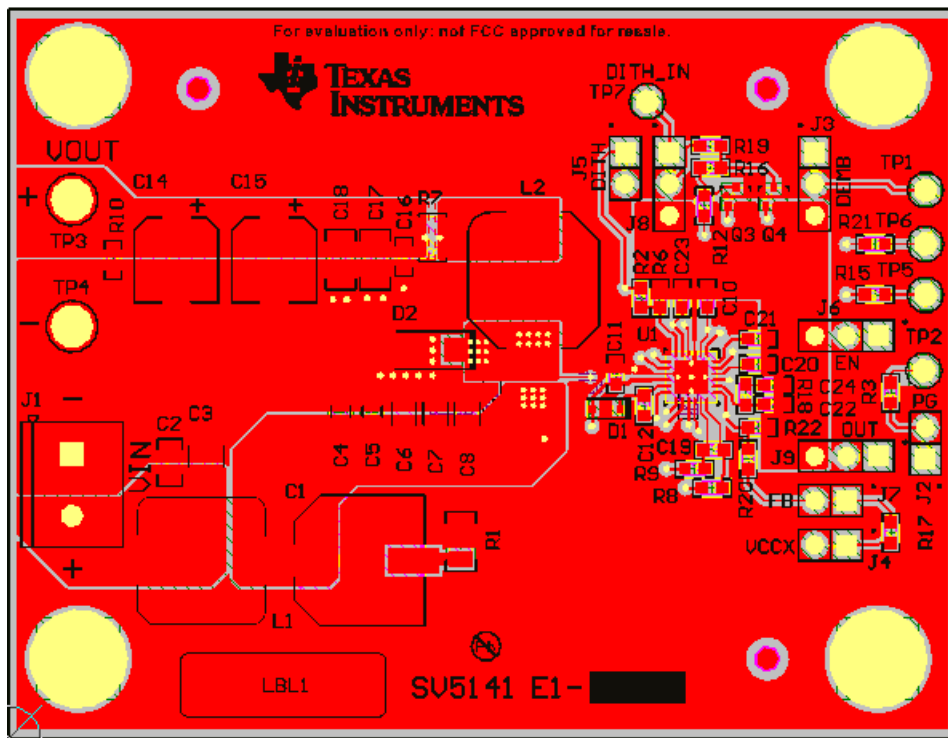
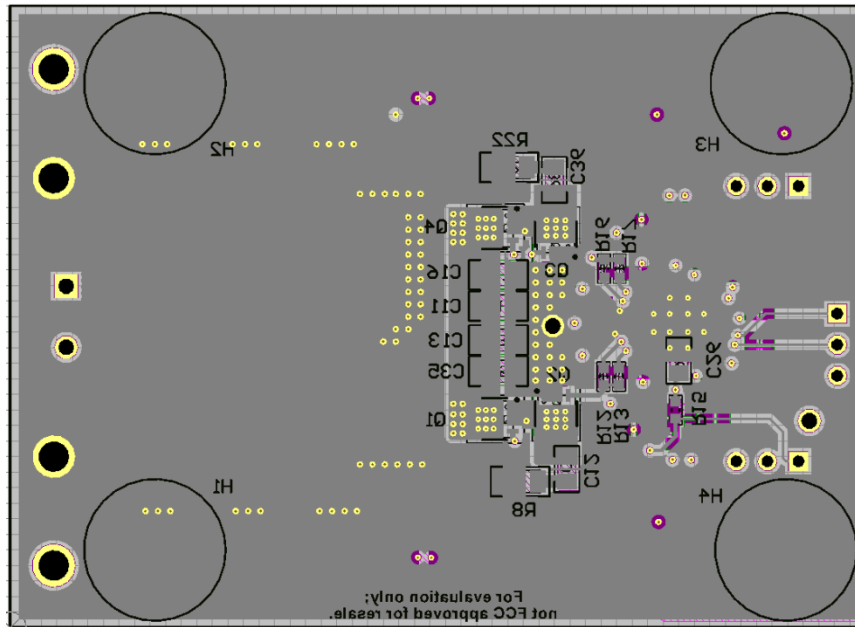

Figure 41. EVM Top Layer
Figure 42. EVM Bottom Layer
- Figure 39 shows the high-frequency loops of the synchronous buck converter. The high frequency current flows through Q1 and Q2, through the power ground plane and back to V_{IN} through the ceramic capacitors C6, C7, and C8. This loop must be as small as possible to minimize EMI. Refer to Figure 41 and Figure 42 for the recommended PCB layout.
Figure 41 and Figure 42 show the Top and Bottom layer of the LM25141-Q1 EVM.